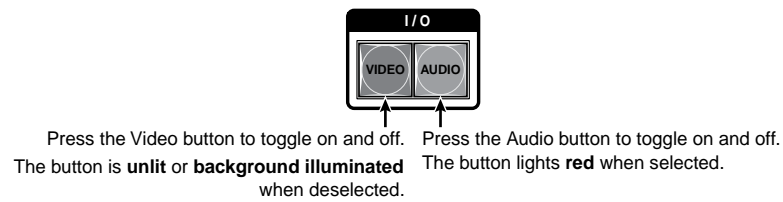

Figure 3-17 — Select audio only
2. To select audio only for the tie, if necessary, press and release the Video button and the Audio button (figure 3-17).